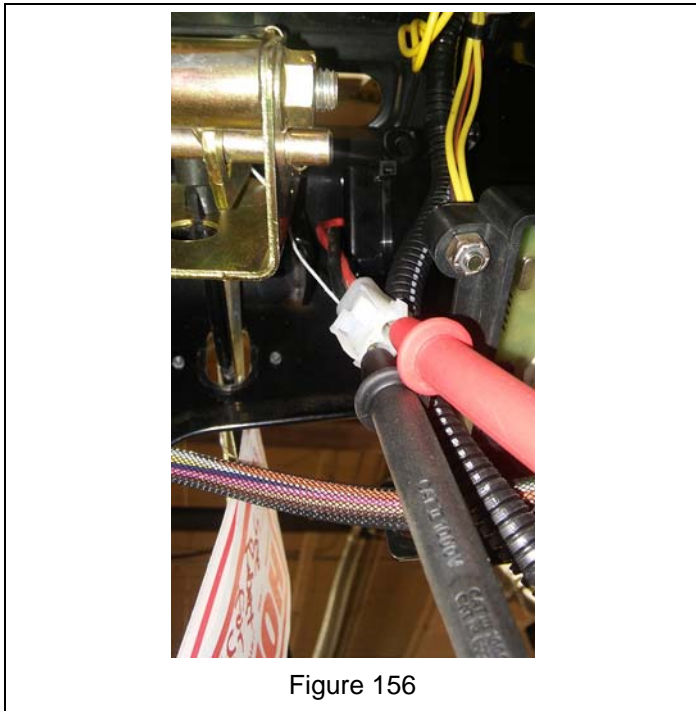

Figure 156
- a. Check the battery. With the engine off, the battery voltage should be 7.2 – 8.4 volts DC. See Figure 156.
If DC output is higher than 8.4 volts, replace ECU. See Figure 156.